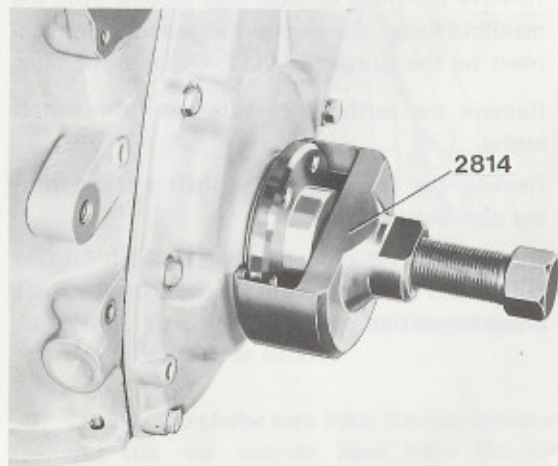

Fig. 21-8. Removing the polygon hub
6. Remove the centre bolt and pull off the polygon hub with puller 2814, Fig. 21-8. (First test to see whether the polygon hub can be pulled off by hand.)